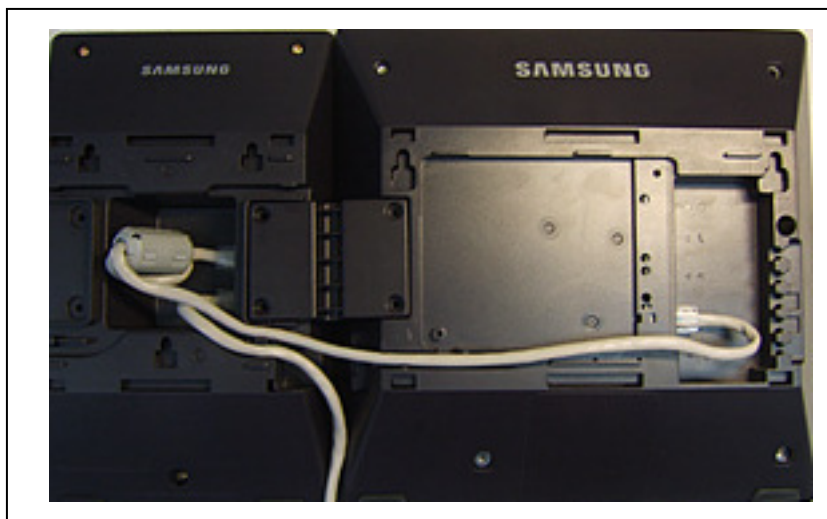

Figure 7.28 Attaching SMT-i5264 AOM to phone
- 4) To connect to the phone, connect the UTP cable between the port and the LAN port of the IP phone. (See Figure 7.28).
If PoE is used, PoE connection should be connected to the LAN port of the SMT-i5264 (AOM) first then transfer over to the phone. As shown in Figure 7.28 the SMT-i5264 (AOM) can transfer the power from the LAN port to the phone port, but the phone can't transfer power to the AOM.